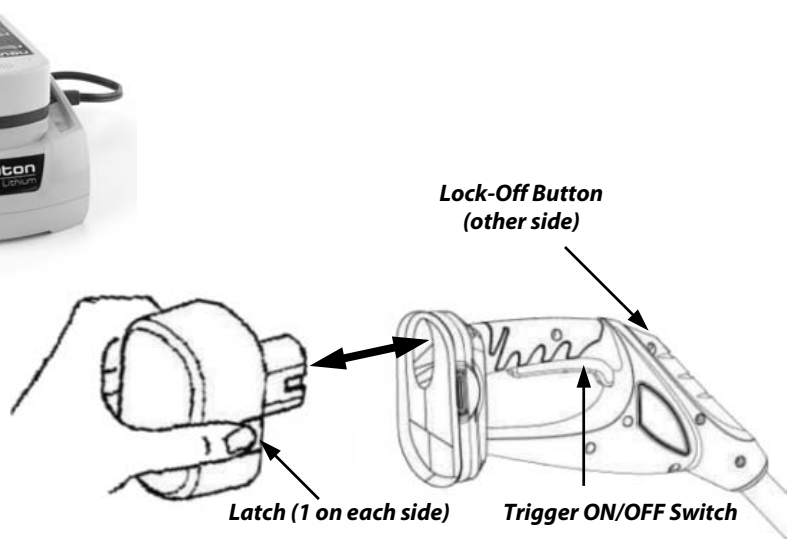

Figure 4
When installing the Battery Pack, **DO NOT** push the Lock-Off Button or squeeze the Trigger ON/OFF Switch (**Figure 4**).
1. Install the Charged Battery Pack in your NEUTON Battery-Powered String Trimmer by aligning the connector on the Battery Pack with the receptacle at the rear of the Trimmer and insert the Battery Pack (**Figure 4**) until the Latches on each side of the Battery Pack snap into place; assuring a secure connection to the Trimmer. Again, the Battery Pack and Trimmer Housing have keyways so they will fit together only one way.
2. To remove the Battery Pack, simply press both Latches on sides of the Battery Pack to release the Battery Pack from the NEUTON Battery-Powered String Trimmer Housing (**Figure 4**) and pull the Battery Pack straight back.
- Starting, stopping, and restarting an electric Motor repeatedly within a few seconds can generate a great deal of heat and damage the Motor. To protect the life of your NEUTON Battery-Powered String Trimmer, always wait at least five (5) seconds after stopping before restarting the Trimmer.
2. Push the Lock-Off Button IN (**Figure 4** on page 5) with your thumb and squeeze the Trigger ON/OFF Switch (**Figure 4** on page 5) with your fingers. Once the Motor starts you can remove your thumb from the Lock-Off Button. If the Trimmer does not start, make sure the Battery Pack is charged and locked firmly into place in the Trimmer Housing.